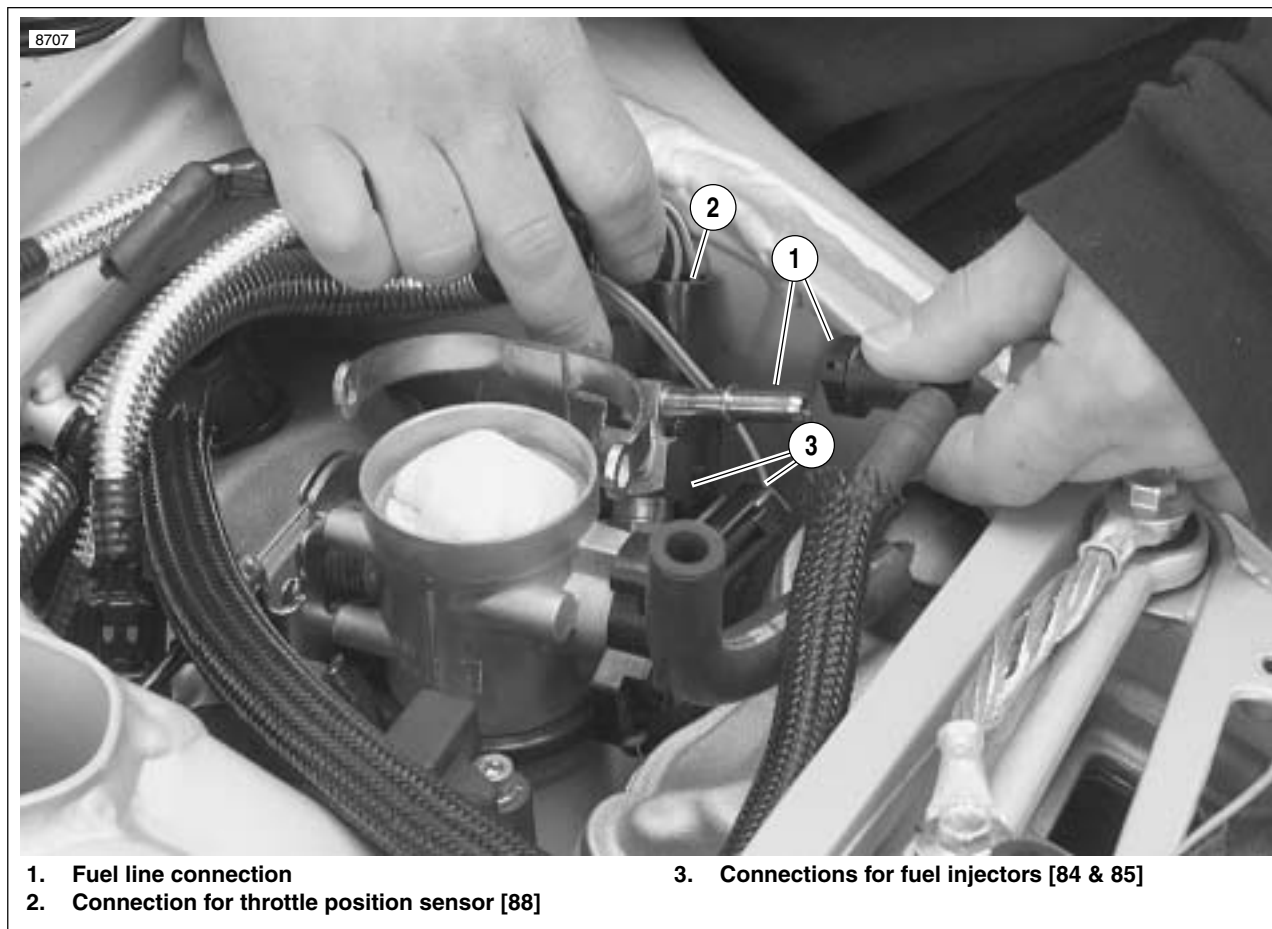

Figure 3-15. Fuel Line and DDFI Electrical Connections
18. See Figure 3-15. Connect throttle position sensor (2) [88].
19. Connect fuel injector leads (3) [84 & 85].